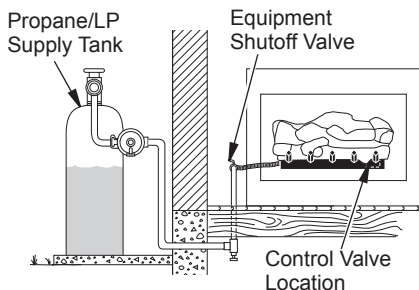

Figure 15 - Checking Gas Joints (Propane/LP Only)
3. Check all joints from gas meter to equipment shutoff valve for natural gas or propane/LP supply to equipment shutoff valve for propane/LP (see Figure 15 or 16). Apply noncorrosive leak detection fluid to all joints. Bubbles forming show a leak.
4. Check all joints from equipment shutoff valve to gas valve (see Figure 15 or 16, page 15). Apply noncorrosive leak detection fluid to all joints. Bubbles forming show a leak.